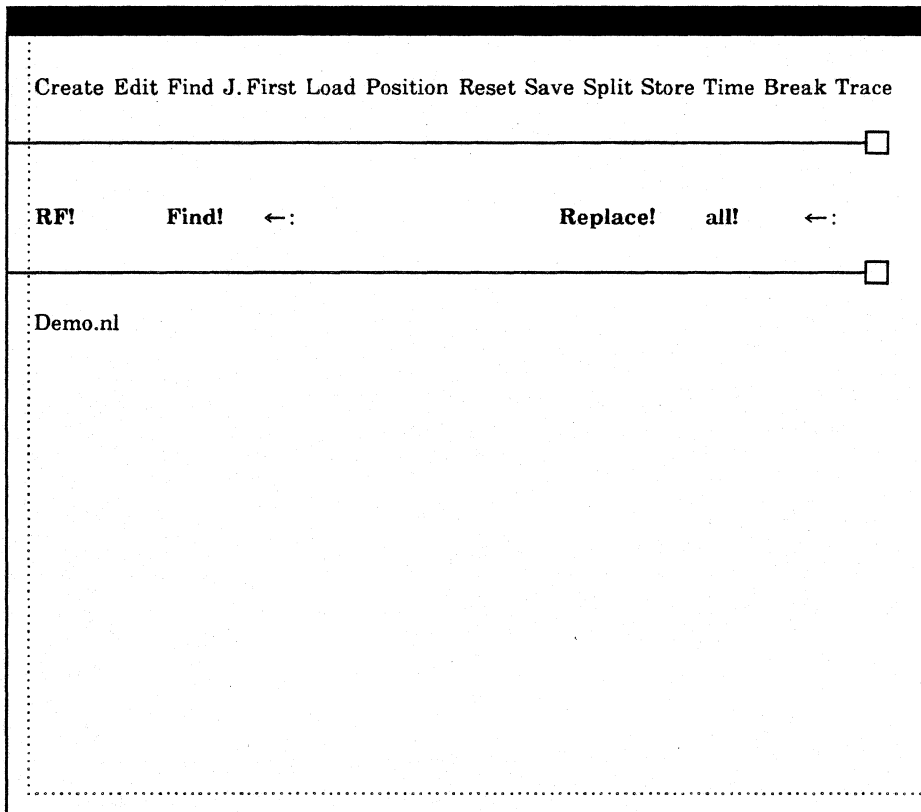

Figure 3.7
- 3) Type the name of the net list's documentation set, followed by a period, followed by the letters ".nl." See figure 3.7.